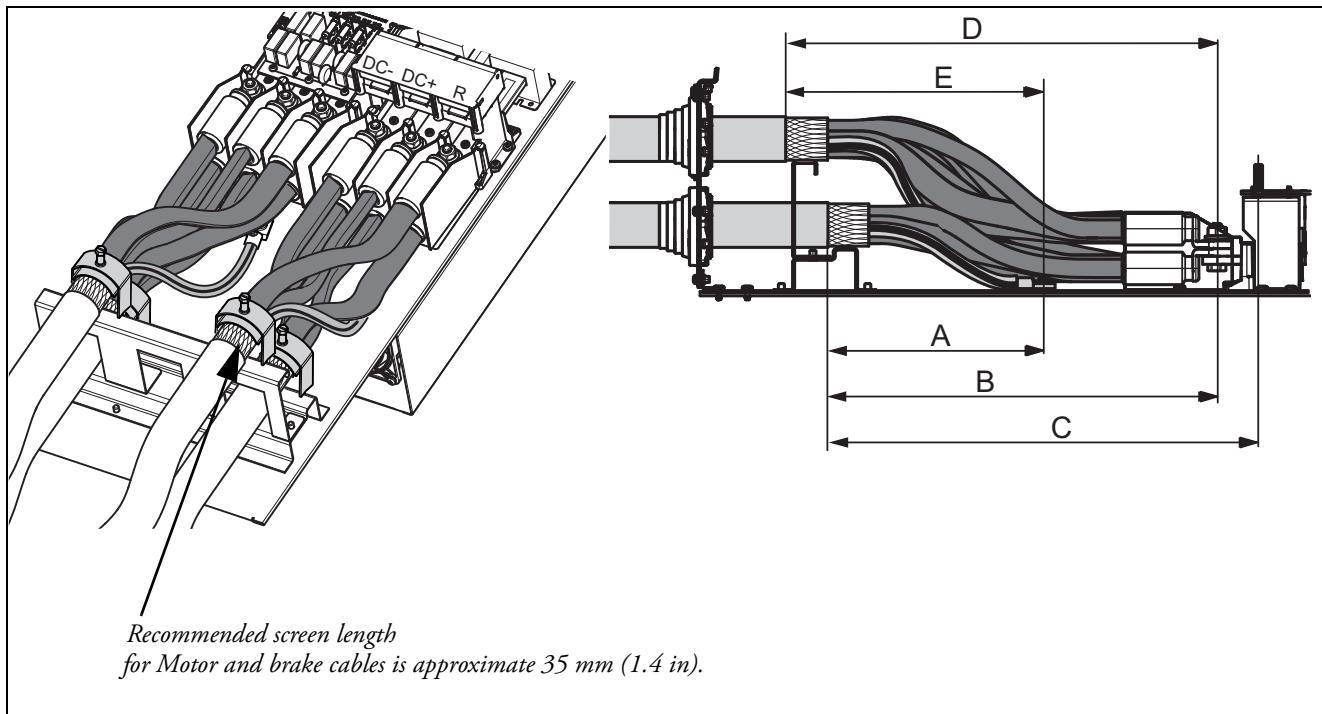

Fig. 55 Distances from the cable clamp to the connection bolts size FA.
4. Strip the cables according to table 15 and fig. 55.
3. Strip the cables according to table 17 and fig. 55.
Fig. 55 indicates the distance from the cable clamp to the connection bolts for decision of stripping lengths for the cables.